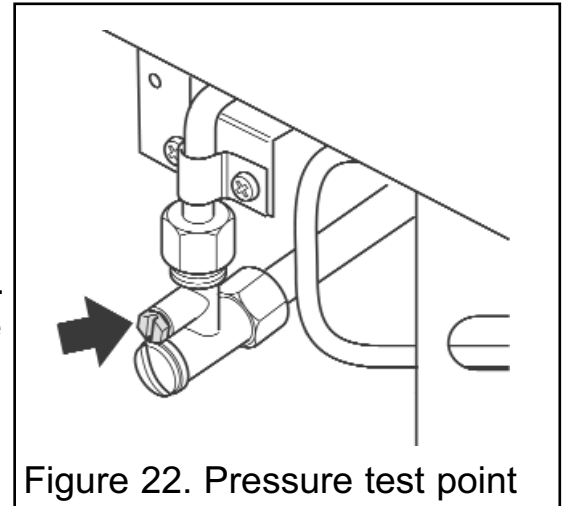

Figure 22. Pressure test point
1. Check the inlet pressure by fitting a pressure gauge at the test point. The test point is on the inlet 'T' connector (See figure 22). Check the pressure with the appliance alight and set at maximum output.